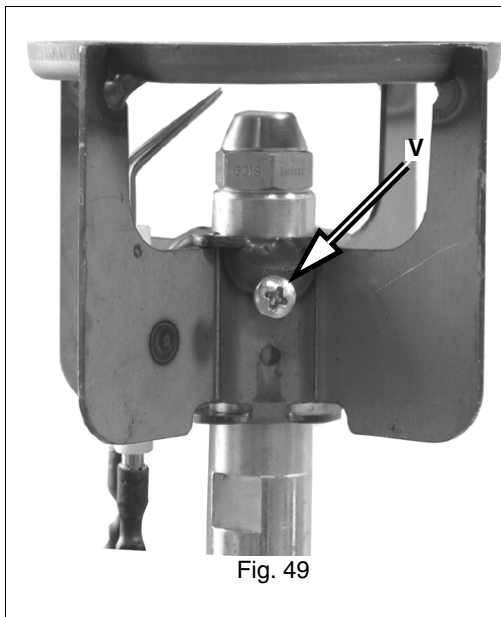
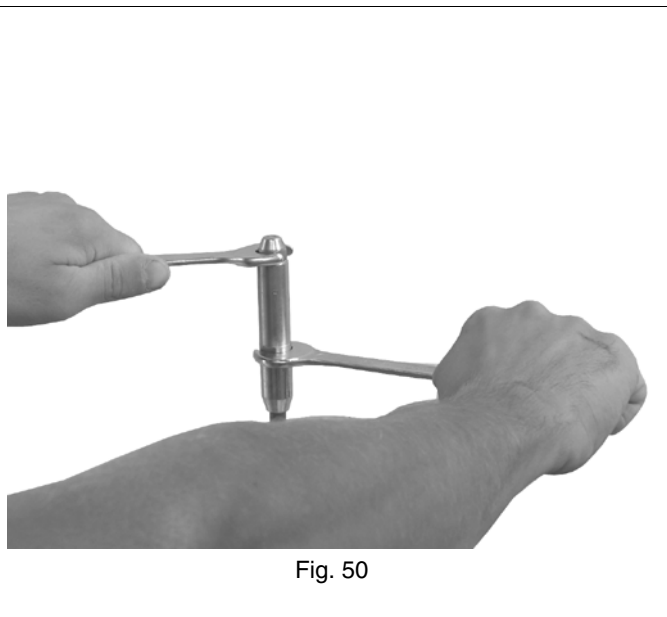

Fig. 49
Fig. 50
- Loose screw **V** that fasten the combustion head and remove the head from the nozzle holder (Fig. 49 - Fig. 50).